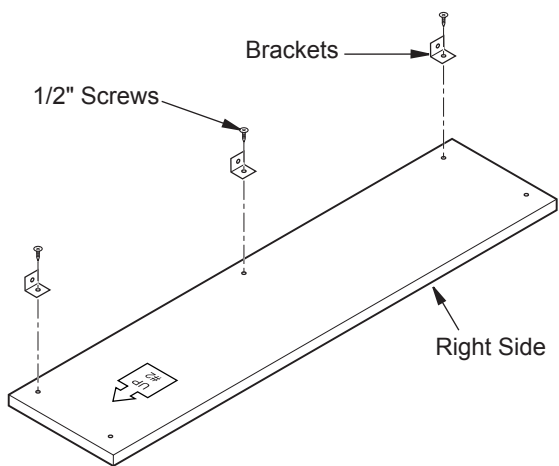
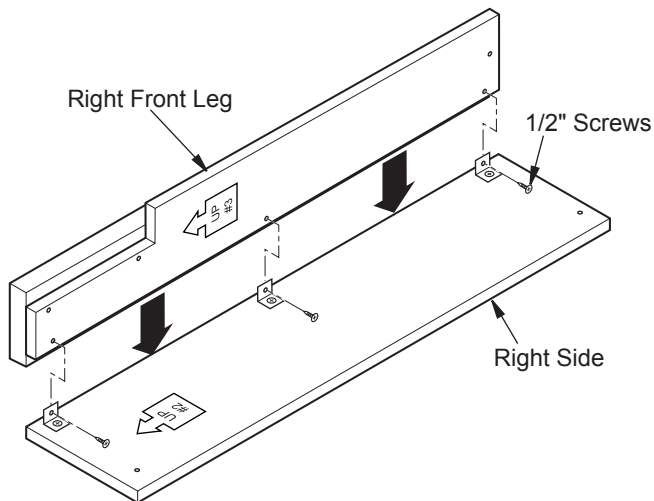

Figure 1 - Attaching Brackets to Side
Figure 2 - Attaching Front Leg
1. Lay right side panel (#2) face down on a soft surface to avoid marking finish. Attach three brackets with 1/2" screws to bottom of right front leg (#3) leaving screws slightly loose. Face brackets out (see Figure 1). Place right front leg (#3) over right side (#2) as shown in Figure 2, paying close attention to direction arrow pointing up on panels. Align threaded holes with brackets on side. Start three 1/2" screws through brackets. Align bottom of side and leg assembly so they are flush with each other. Hold these pieces securely in alignment while tightening (but not over tightening) screws.